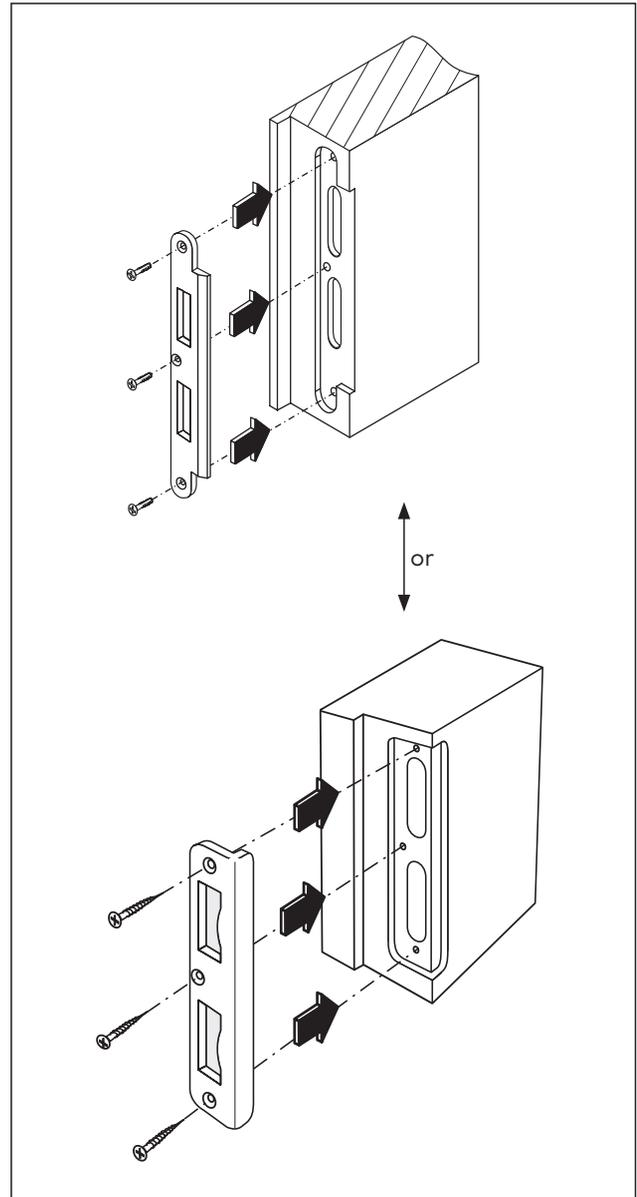

Fig. 27 Mount striking plate
7. Mount the striking plate (Fig. 27).